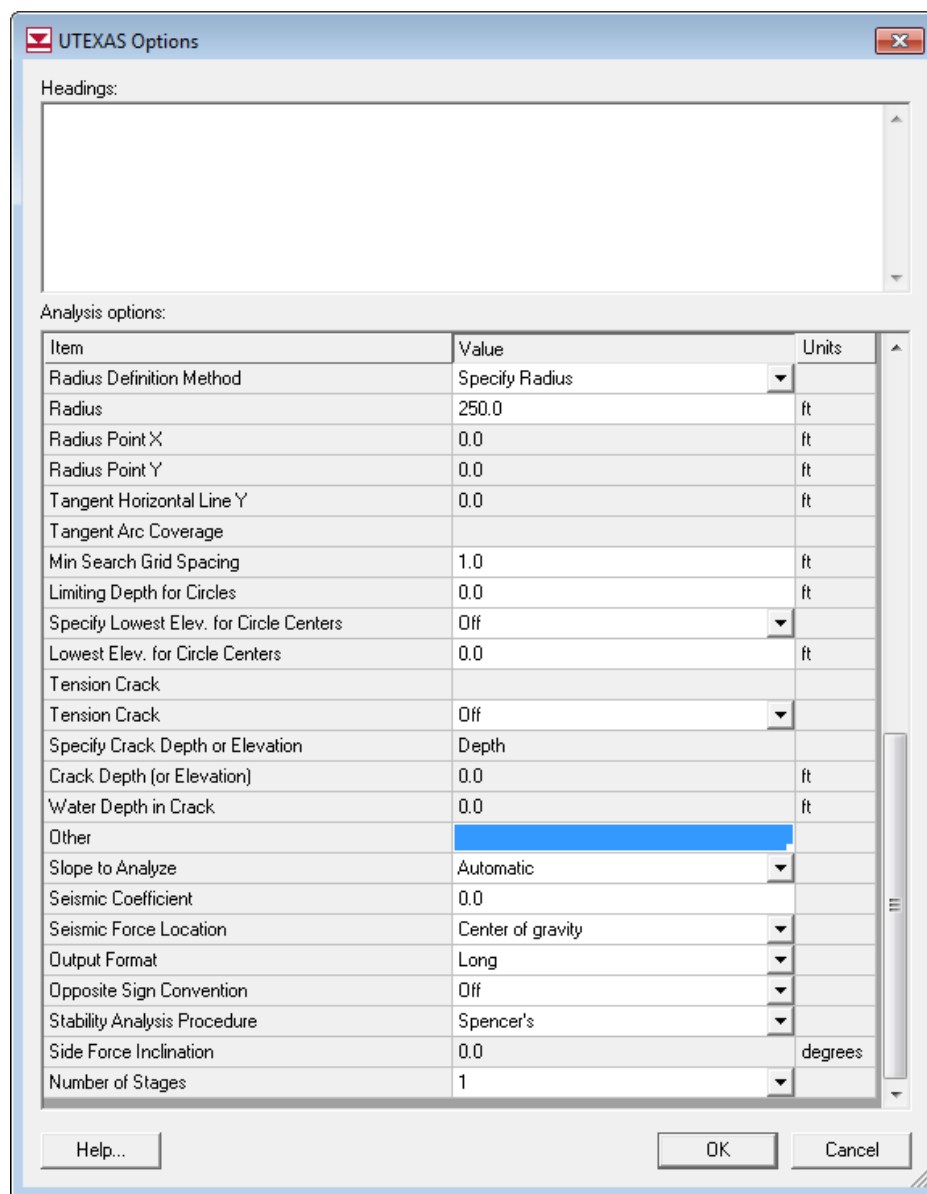

Figure 8. UTEXAS Options dialog.
4. Scroll so that the lower half of the options are visible and change the options to match those shown in Figure 8.